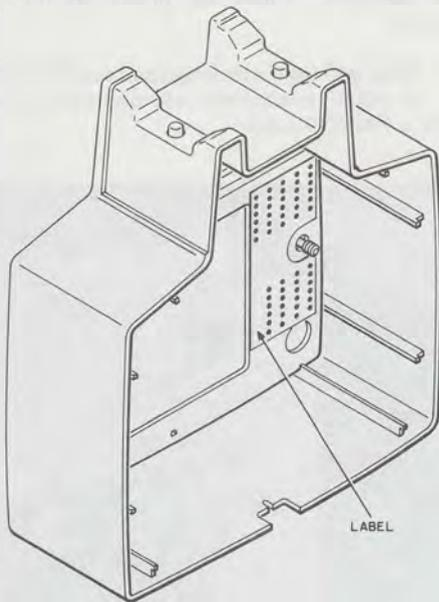

Fig. 16—Connecting Block Wiring Label
3.08 Since individual terminals are not designated on the quick-connect blocks, a label is provided on the inside of the housing as a wiring guide (Fig. 16). Terminals 1-30 are on the upper block and 31-54 are on the lower block. Terminals 51-54 are spare. Use a 714B tool to terminate conductors.
and 27 using the label inside the housing as a guide in locating terminal numbers (Fig. 16).